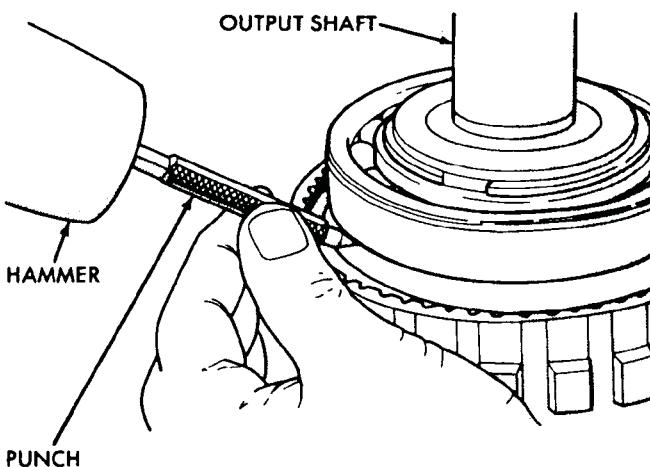

Fig. 32 Marking Annulus Gear And Output Shaft For Assembly Alignment
- (22) Mark annulus gear and output shaft for assembly alignment reference (Fig. 32).